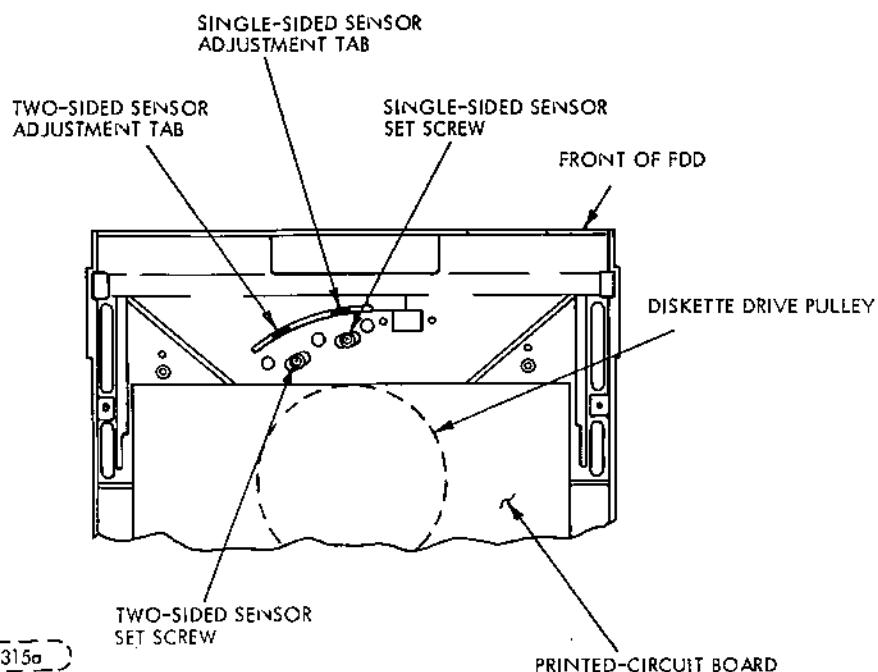

Figure 6-5b. Single- and Two-Sided Sensor Adjustment Means
- e. Adjust the time of the write-splice bit until it measures per Table 6-3. Refer to Figure 6-5a to adjust the write Index-to-Burst time, loosen the single-sided sensor set screw holding the (single-sided-sensor) phototransistor located on the bottom of the chassis toward the front of the unit, (Figure 6-5b). Using the adjustment tab protruding through the casting, move the phototransistor until the specification is met. Tighten the set screw while observing the scope signal. Verify that the adjustment did not change.